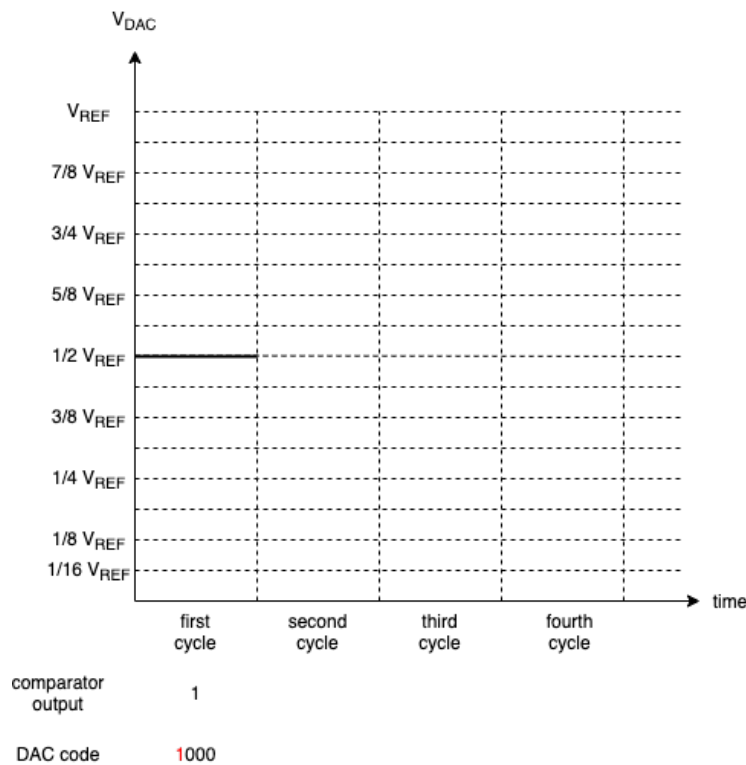

Figure 13: SAR ADC V_{DAC} timing diagram
- Plot the output voltage of the DAC in the timing diagram in Figure 13.